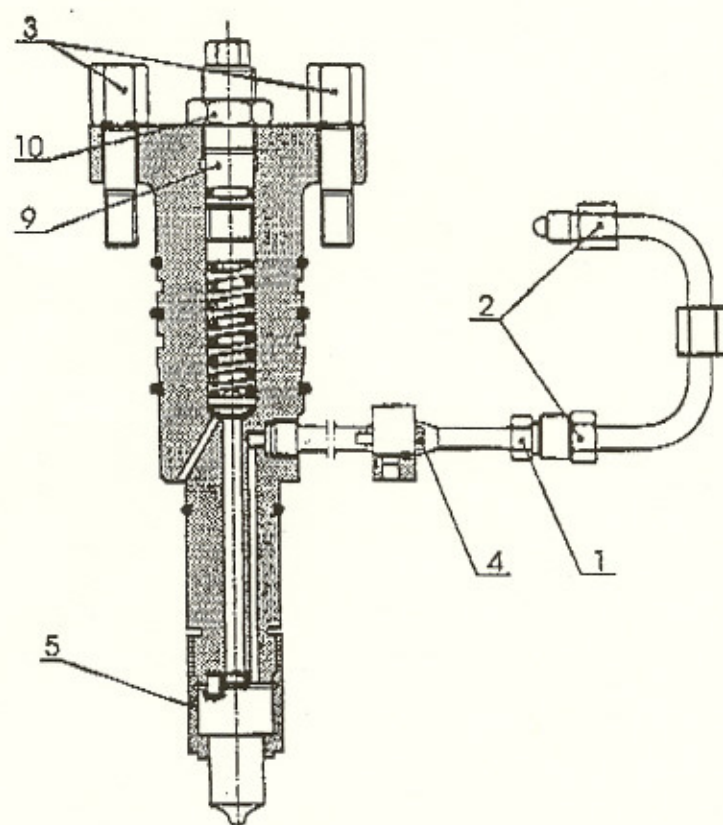

Fig 16-2
- 3** Fit the injection valve into cylinder head bore but do not tighten the nuts (3), Fig 16-2.
- 4** Put new O-rings in the sealing flange of the high pressure connection piece. Place the flange on the connection piece and screw in the connection by hand, (be sure that the flange screws (4) is loose). Tighten the connection piece (1) to correct torque.
- 5** Mount the injection line and tighten the two cap nuts (2) to correct torque.
- 6** Tighten the fastening nuts (3) of the injection valve to correct torque in steps of 10 Nm.
- 7** Fasten the hexagon nuts on the sealing flange (4) of the high pressure connection.